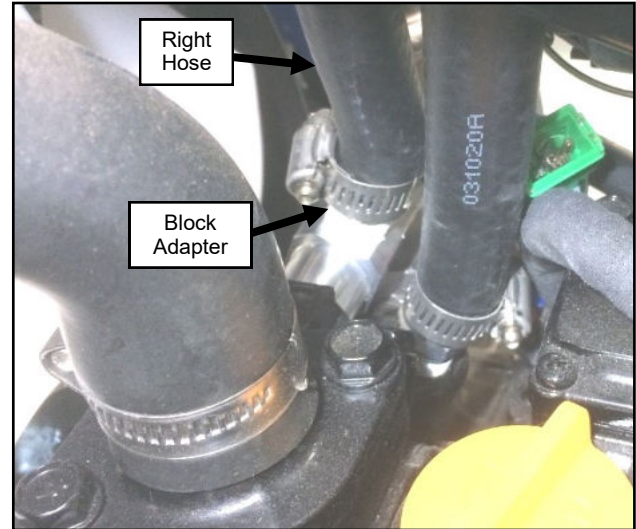

Figure 17.11 (Heater Hose Install)
17.11 Install block adapter onto the top of the sending unit adaptor. Next, install right side 5/8" heater hose and 1" hose clamp onto the recently installed block adapter. Re-connect temp. sensor wire to temp. sensor. See figure 17.11.
17.12 Install left 5/8" heater hose (cut as needed) and 1" hose clamp onto the other block adapter. See figure 17.11.